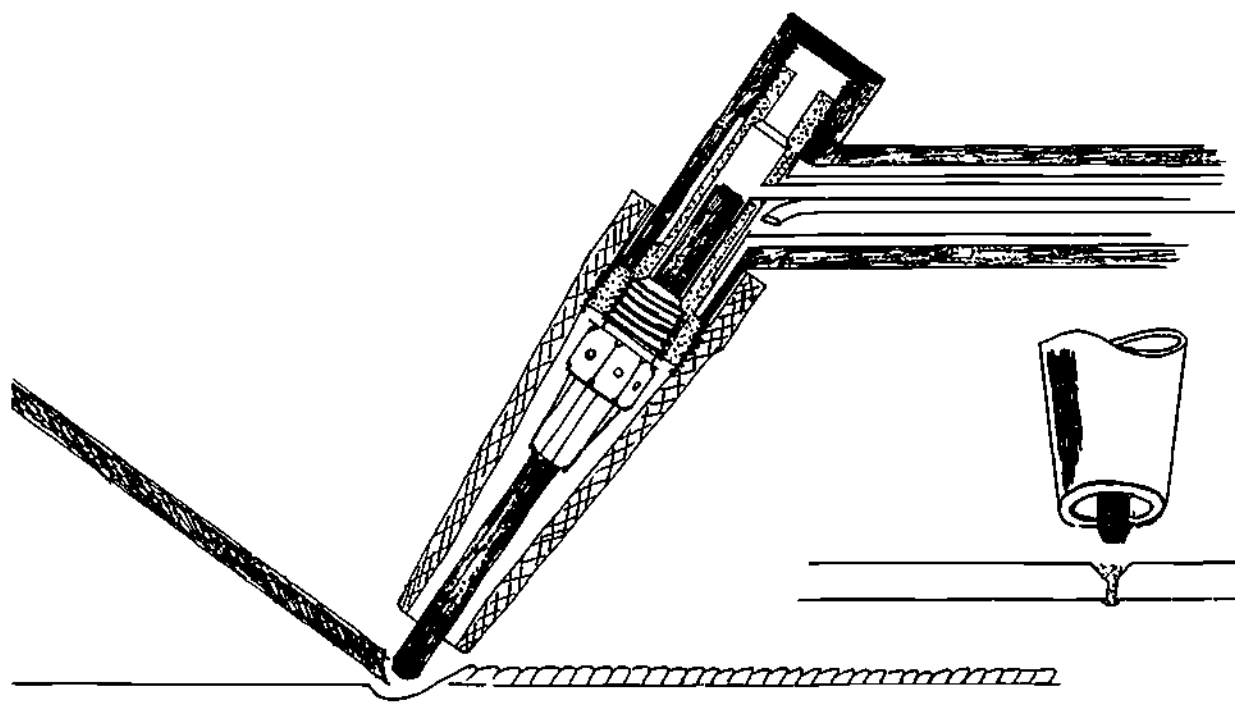

Figure 8-34. T.I.G. Torch
**Torch** The basic features of the T.I.G. torch are illustrated in Figures 8-34. The torch may be air cooled or water cooled. Air cooled torches are used for thin gauge applications while water cooling is necessary for thicker and more general applications